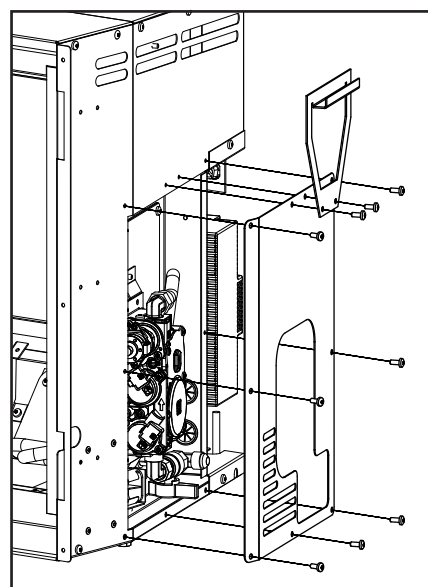

Figure 42: Valve Cover Removal
9. To gain access to the valve remove the valve cover by unscrewing the nine (9) T20 screws on the right side of the unit (see Figure 42)